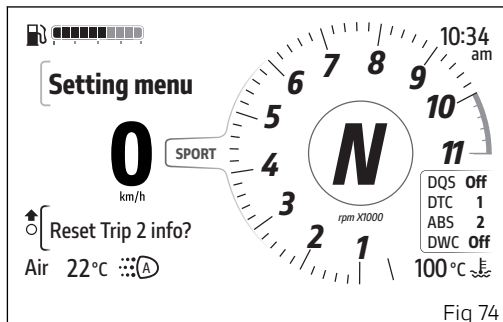

Fig 74
The "Trip 2" information, when selected, can be reset by pressing the ENTER button (3): "Reset Trip 2 info?" will be displayed (Fig 74).